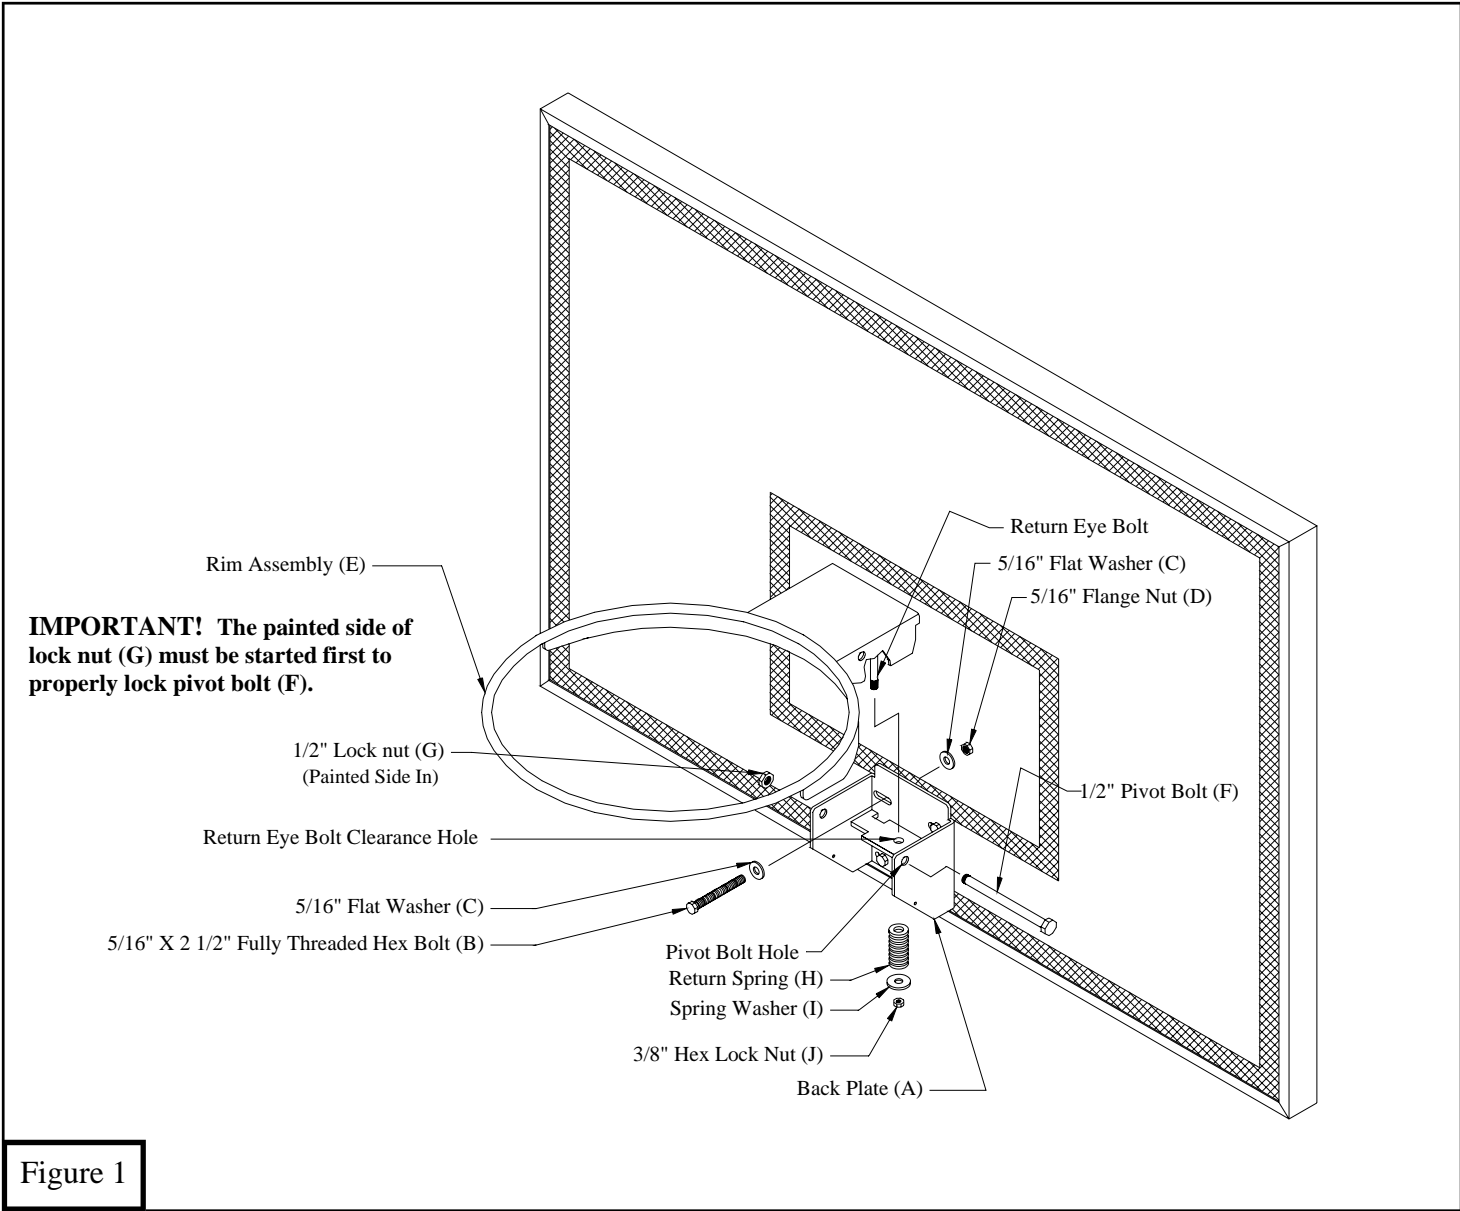

Figure 1
1. Mount *back plate* (A) to backboard/extension arm with *5/16 X 2 1/2" fully threaded hex bolts* (B), *5/16" flat washers* (C) and *5/16" flange nuts* (D). Level backboard and *back plate* (A) prior to tightening hardware.
2. Install *rim assembly* (E) to the *back plate* (A) by feeding the return eye bolt through the clearance hole shown in figure 1. The *back plate* (A) and *rim assembly* (E) are designed to fit tightly together, you may need to use a soft face hammer to encourage this assembly.
3. Align the pivot bolt holes and install *1/2" pivot bolt* (F) through entire assembly, use *1/2" lock nut* (G) to secure pivot bolt. **IT IS VERY IMPORTANT THAT THE PAINTED SIDE OF THE LOCK NUT (G) IS PLACED (STARTED) ON THE PIVOT BOLT (F) FIRST TO PROPERLY LOCK PIVOT BOLT.** Take care not to damage the threads. You may need to tap the *1/2" pivot bolt* (F) through the assembly with a hammer. Tighten bolt and nut, if your assembly does not flex freely loosen *1/2" lock nut* (G) 1/2 turn. See Figure 1.
4. Push the front of *rim assembly* (E) up to seat the assembly in home position, this will facilitate installing *return spring* (H), *spring washer* (I) and *3/8" lock nut* (J). Using a 9/16" wrench tighten the *3/8" lock nut* (J) until 2-3 threads are showing below the nut. Spring tension can be adjusted to player preference. See Figure 1.
5. Install *cover plate* (K) with *1/4" self tapping screws* (L).
6. Install *net* (M).